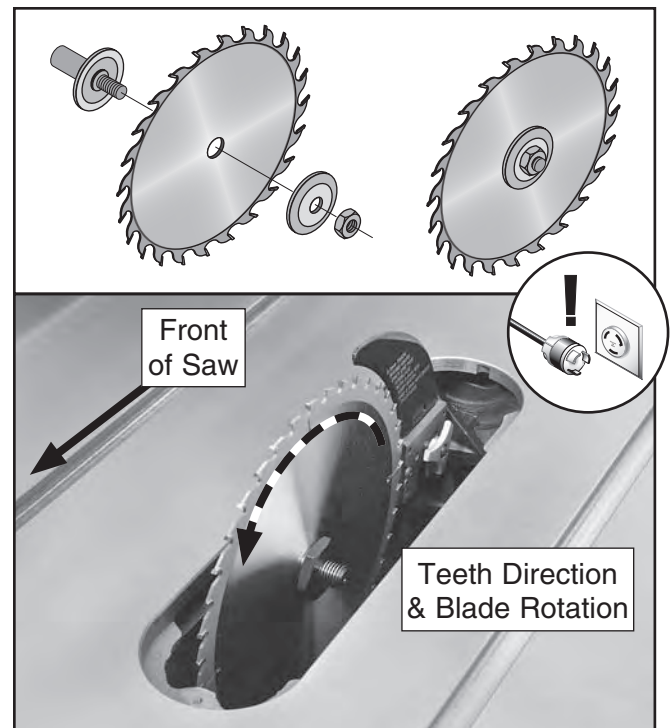

Figure 47. Example of correct blade direction.
5. Slide the blade over the arbor with the teeth facing the front of the saw, as shown in Figure 47.